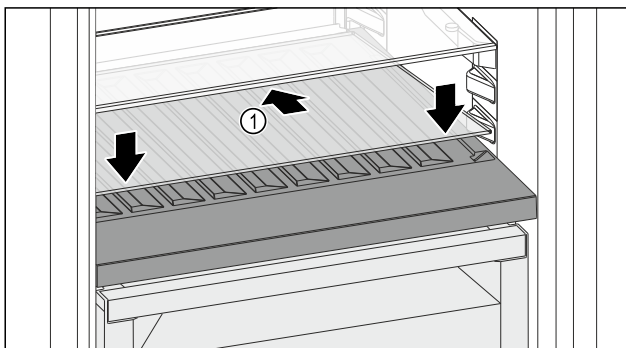

Fig. 216
- ▶ Place the glass shelf Fig. 216 (1) at an angle, sloping it downwards and backwards.
- ▶ Lower the glass shelf Fig. 216 (1) at the front.